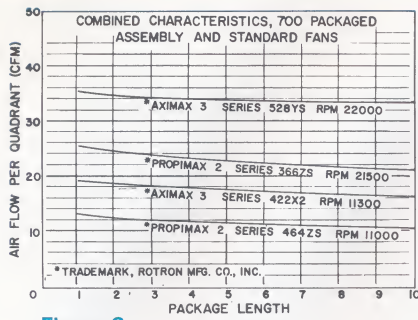
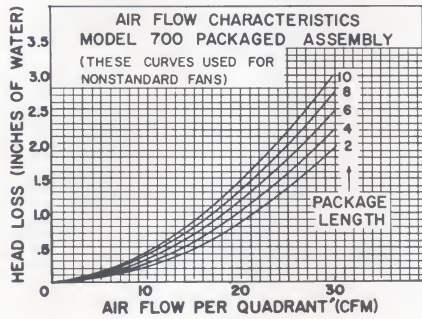

Figure 2
Figure 3
1. **Estimate:** For each semiconductor which is to be cooled, determine the thermal resistance which will be required from its heat sink to ambient. Then from Fig. 2 determine the airflow per quadrant available for an 8 unit length package for the particular fan desired. (For Fig. 1, 2, 3 and 4, refer to pages on Series 700, 800, 820 and 900.) Using the 8 unit length airflow per quadrant or octant, which we trust will be conservatively low, proceed to Fig. 1. Choose the cooler module for each semiconductor which has a sufficiently low thermal resistance, keeping in mind the fact that the "B" type modules are for stud-mounting semiconductors only.
3. **Analyze:** From the curves of Fig 2 or Fig. 3, the actual airflow per quadrant through the determined package length can be ob-